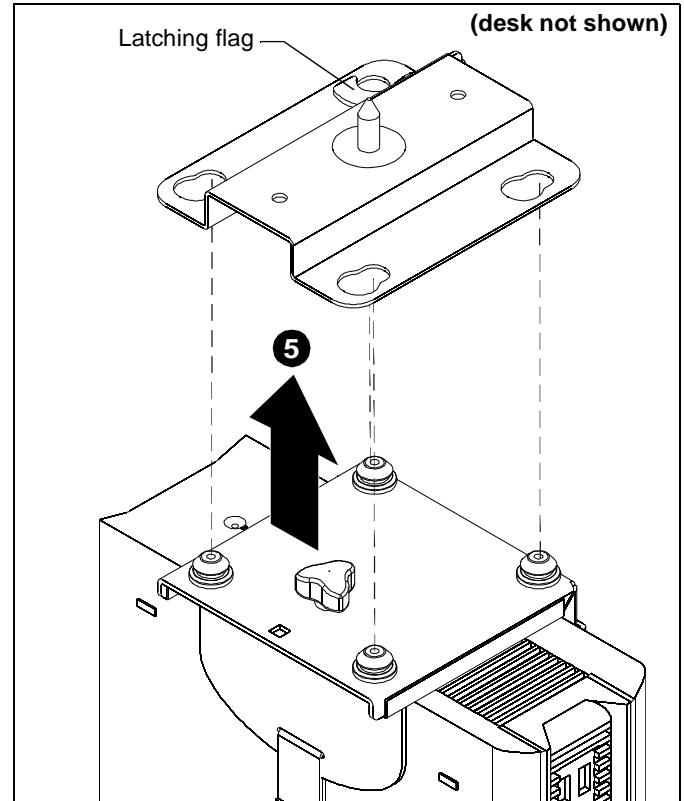

Figure 18
5. Insert four mounting buttons into four mounting holes on the bracket. (See Figure 18)